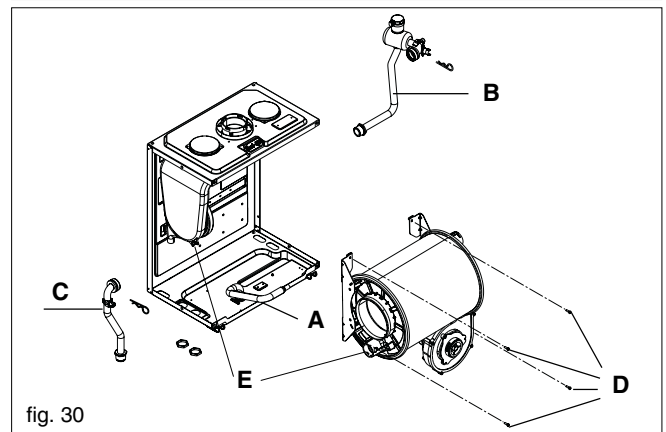

fig. 30
6.15 BURNER (fig. 30)
6.16 MAIN HEAT EXCHANGER (fig. 30 & 31)